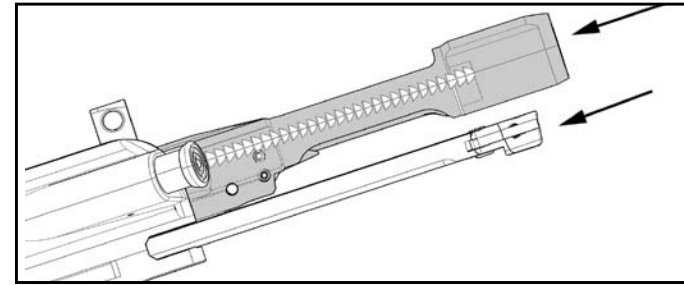

Fig. 49 – Installing the bolt assembly into the upper receiver
- g. With the upper receiver and charging handle upside down, install the bolt assembly onto the bottom of the charging handle ensuring that the bolt carrier's anvil and the top of the cam pin are centered in the bottom cavity of the charging handle (Fig. 49).